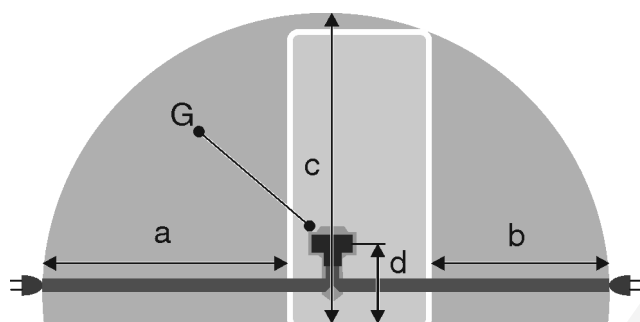

Fig. 51
- The socket is outside the back of the appliance area in the specified area Fig. 51 (a, b, c).
- ▶ Insert the appliance plug Fig. 51 (G) into the back of the appliance. Ensure that it clicks into place.